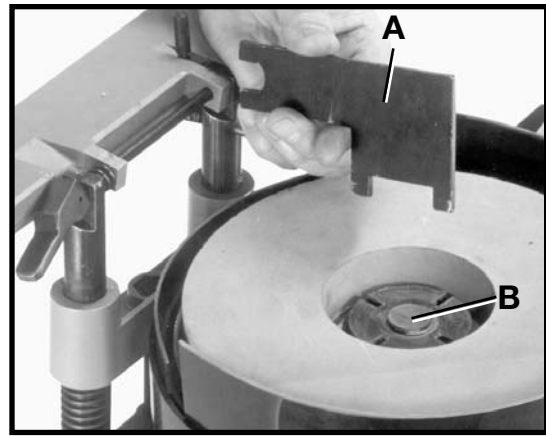

Fig. 58
1. Using the wrench (A) Fig. 58, supplied, remove the wheel locking nut (B).